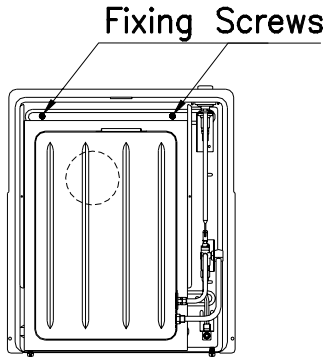

Fig. 9
- Position the heater onto the vent air intake pipe. Making sure that the heater is horizontal, mark the position for the fixing screws. (Fig. 9)